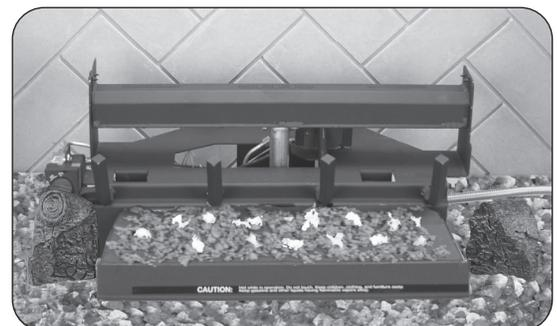

Fig. 18-4 Place bryte coals
2. Separate the bryte coals into small pieces, and evenly place them over the glowing embers as shown in Fig. 18-4.